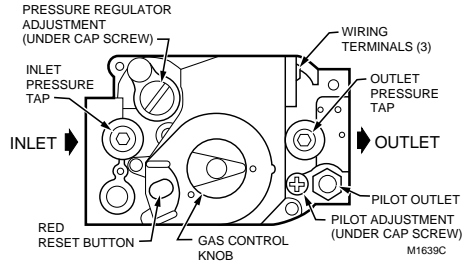

Fig. 4. Top view of gas control
6. Connect pipe to gas control inlet and outlet. Use wrench on the square ends of the gas control. If an adapter is used, place wrench on adapter rather than gas control. Refer to Figs. 4 and 5.
3. Unscrew compression fitting from the pilot outlet. See Fig. 4. Slip the compression fitting over the tubing and slide out of the way.
3. Connect control circuit to gas control terminals. See Figs. 4 and 8.